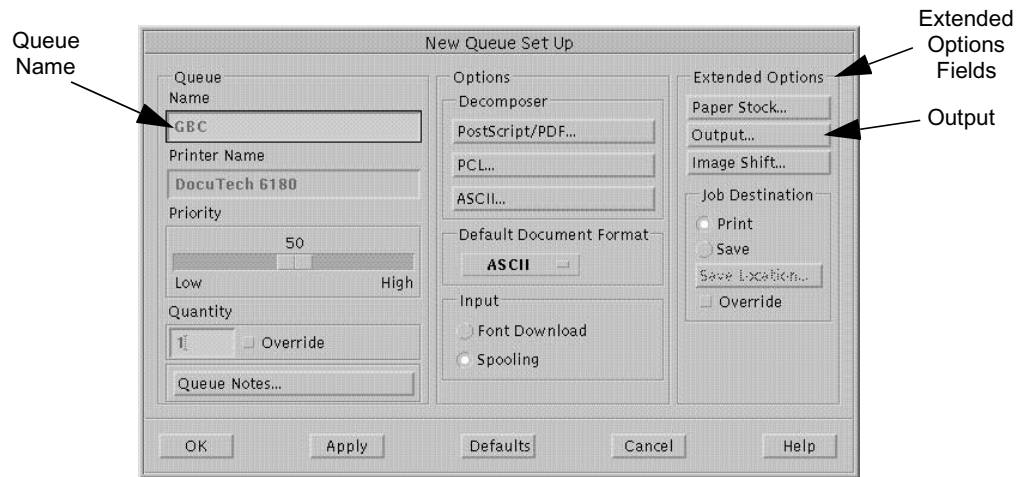

Figure 1-18: The New Queue Setup Window
The New Queue Setup Window will display, as shown in Figure 1-18.
- 4 Go to the **Extended Options** field and select **Output**, as shown in Figure 1-18.